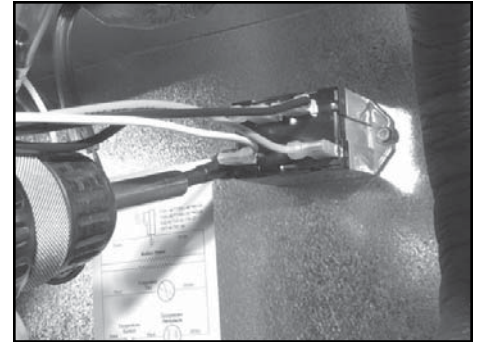

Figure 8.
E. Mount relay to back wall using provided self tapping screws. (See figure 8).